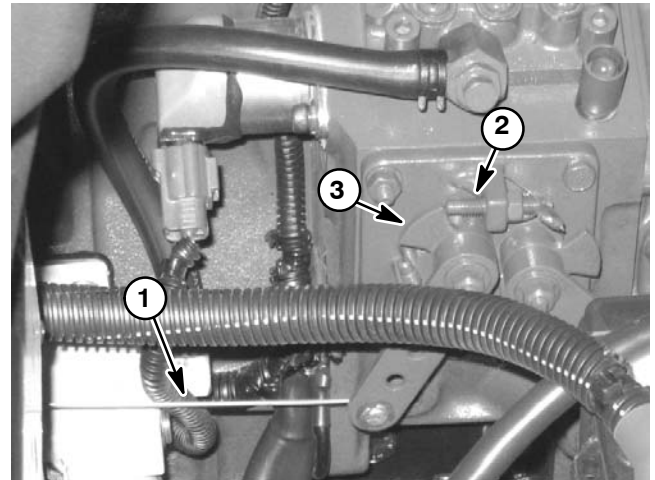

Figure 1
2. Check position of speed control lever on engine fuel injection pump. Speed control lever should be contacting high speed screw when throttle control lever is in **FAST** (detent) position (Fig. 1).